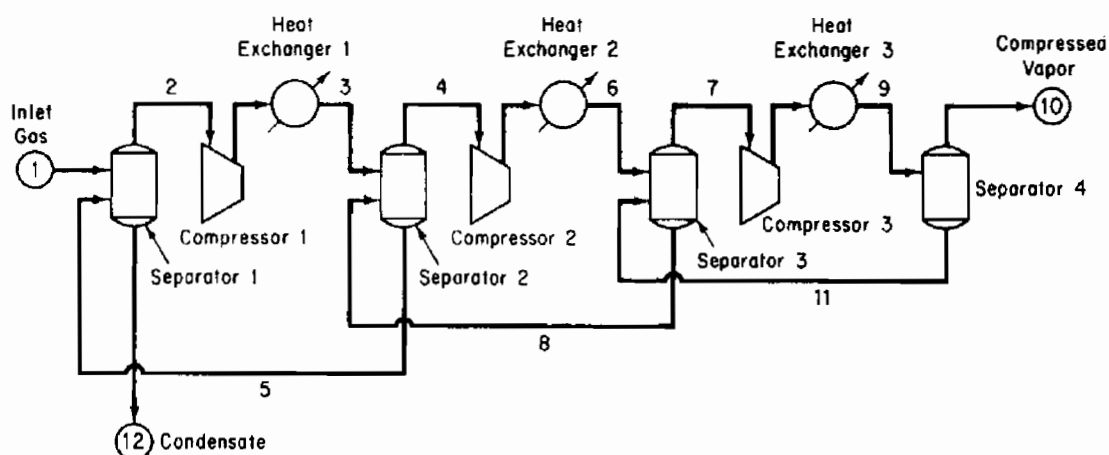

Figure P31.14
- 31.14** A mixture of three petroleum fractions containing lightweight hydrocarbons is to be purified and recycled back to a process. Each of the fractions is denoted by its normal boiling point: BP135, BP260, and BP500. The gases separated from this feed are to be compressed as shown in Figure P31.14. The inlet feed stream (1) is at 45°C and 450 kPa, and has the composition shown. The exit gas (10) is compressed to 6200 kPa by a three-stage compressor process with intercooling of the vapor streams to 60°C by passing through a heat exchanger. The exit pressure for compressor 1 is 1100 kPa and 2600 kPa for compressor 2. The efficiencies for compressors 1, 2,